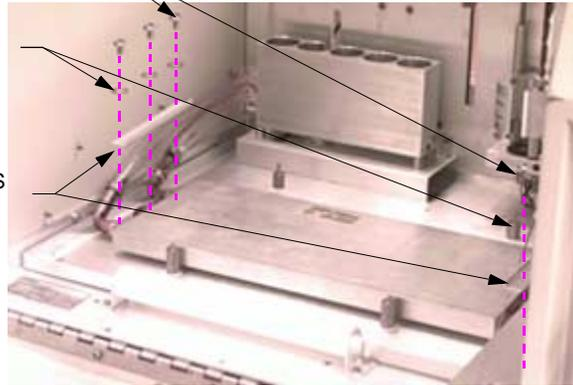

Fig. 1.1.5
- 1.1.5 Secure the Chiller Assembly to the unit with two Chiller Tie Down Brackets (DY-505322-00), using six Lock Washers (14-212004-00) and six 4-40 x 9/16 SSPH Screws (12-222004-09) as shown. See fig. 1.1.5.